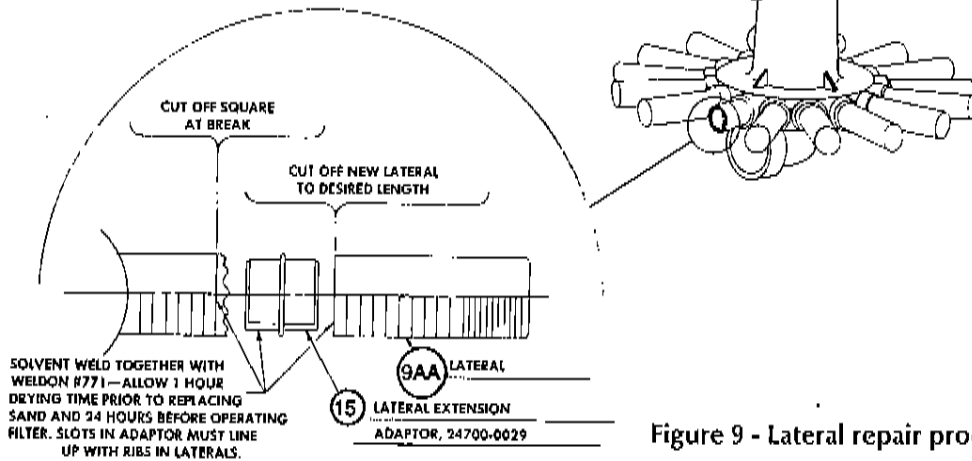

Figure 9 - Lateral repair procedure.
2. Replace lateral according to instructions supplied with new lateral, (see Figure 9, Page 13).
\*\* Available for lateral repairs, see Page 13, Figure 9.